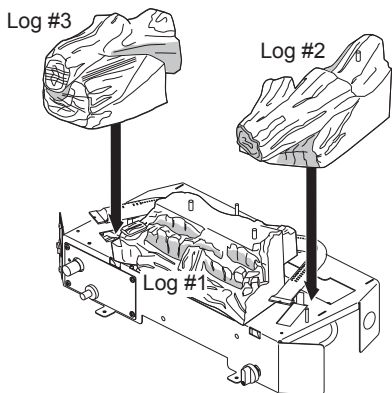

Figure 23 - Installing Log #2 (Right) and Log #3 (Left) (Model VRL30NR Shown)
2. Place log #2 to right of log #1 and onto log alignment screw as shown in Figure 23. Log #2 will wrap around right end of rear burner (see Figure 23).
3. Place log #3 on left side of base and onto alignment screw to right of rear burner (see Figure 23). Log #3 will wrap around left end of rear burner.